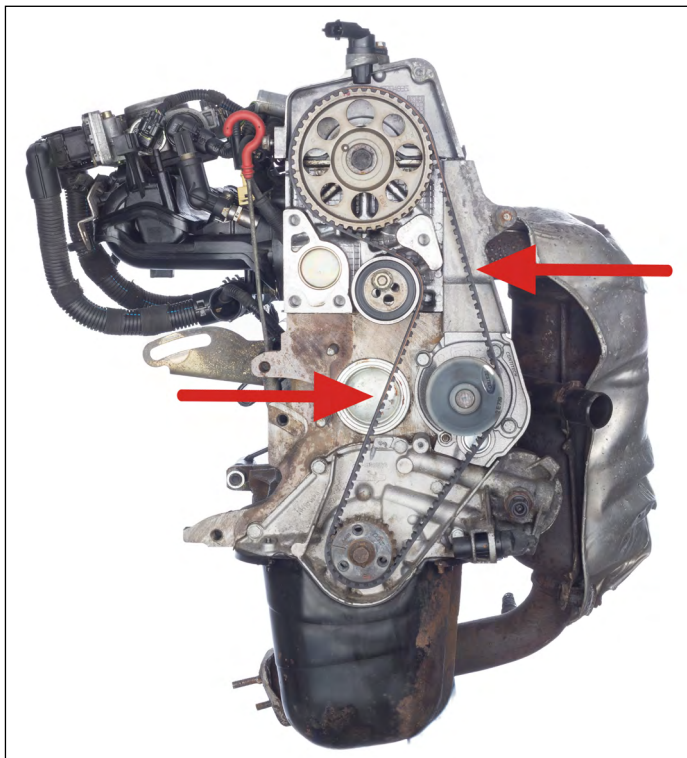
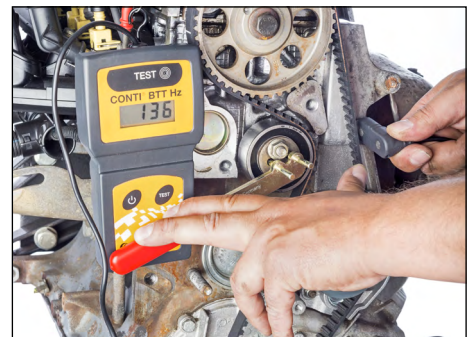

Fig. 13
Fig. 14
Make timing belt oscillate near measurement head by plucking or flicking it and check hertz reading on BTT Hz display. With this model 2 measurements (Fig. 13) must be taken and their values then added together (Figs. 14, 15). Sum must come to 250 Hz. Tighten tensioning pulley nut. Turn crankshaft twice and set to TDC of cylinder 1 again.
4. Use BTT Hz tension tester as an aid when tensioning timing belt. Determine appropriate setting and correct set position using BTT Hz data booklet. Loosen tensioning pulley nut, insert tensioning wrench into tensioning pulley, and position measurement head of BTT Hz at correct position approx. 1-2 cm above timing belt. Make timing belt oscillate near measurement head by plucking or flicking it and check hertz reading on BTT Hz display. With this model 2 measurements (Fig. 13) must be taken and their values then added together (Figs. 14, 15). Sum must come to 160-210 Hz. If reading is not correct, turn tensioning pulley counterclockwise until reading is set on display.